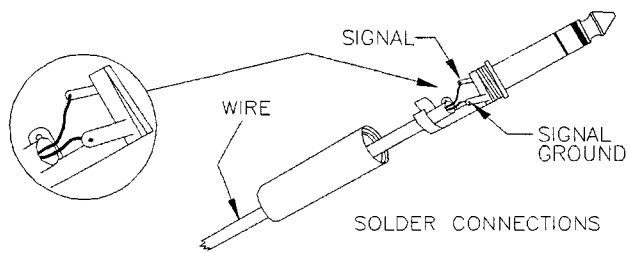

Figure 6. - Analog Output Plug
1. ANALOG OUTPUT: Provides a DC voltage or a 4-20 MA current output, proportional to the pressure measured, to be used with chart recorders or other monitoring equipment see Analog Output Section on page 6 for more details. Shown in figure 6 is the soldered connections to the 1/4" stereo plug for output to analog input devices. Use stranded, two conductor, shielded wire for connections. Terminate the shield at the equipment end (chart recorder or other monitoring device). Do not connect the shield to this connector.